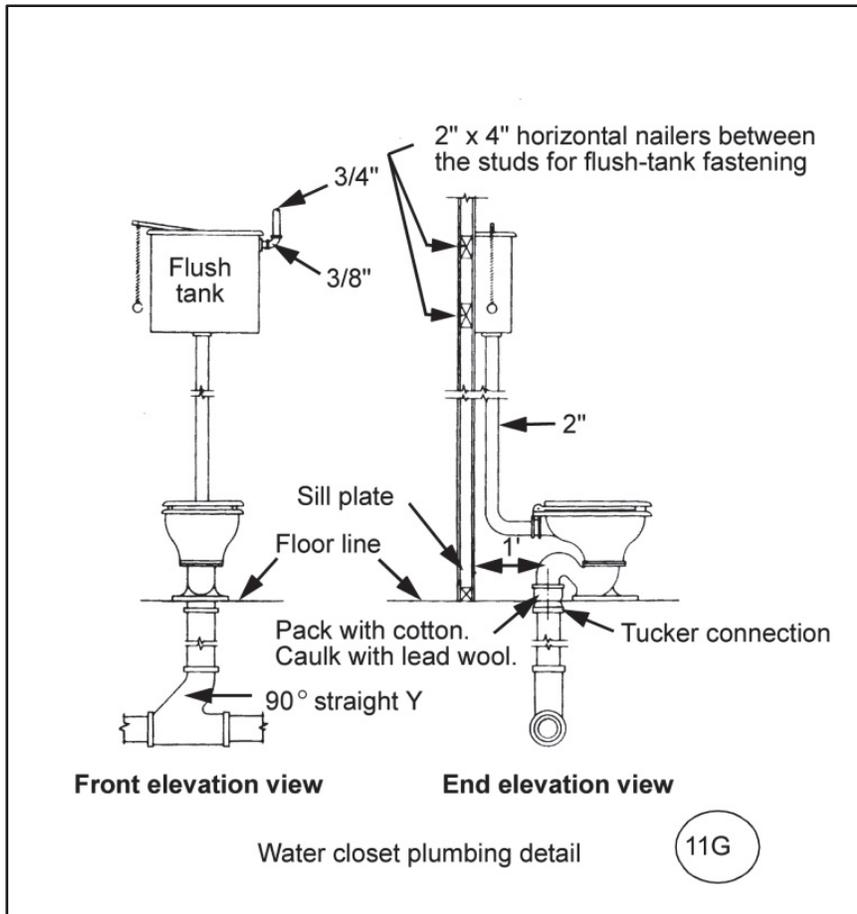

Figure B-3. Standard detail drawings (bathhouse and latrine)
- A standard detail drawing of a water closet installation (figure B-3).